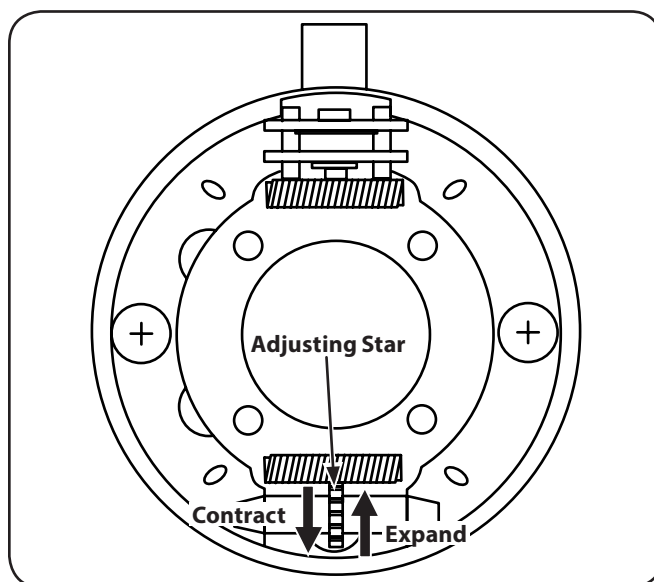

Figure 6-6
2. Using a drum brake adjusting tool, or a standard screw driver, rotate the adjusting star inward toward the axle to to expand the shoes. Expand the shoes until there is slight contact with the brake drums. See Figure 6-6.
4. To contract the brake shoes, rotate the star adjustment outward away from the axle until there is a slight rub between the shoes and the drum. See Figure 6-6.